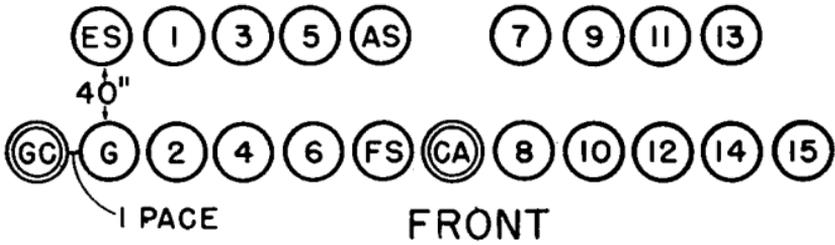

FIGURE 1.—Formation of 3-inch antiaircraft gun section.
■ 7. FORMATION (fig. 1).—The battery is formed as prescribed in FM 4-120. The gun section assembles in two ranks with 4 inches between files and 40 inches between ranks. After forming the section, the gun commander takes post in the front rank 1 pace to the right of his section.